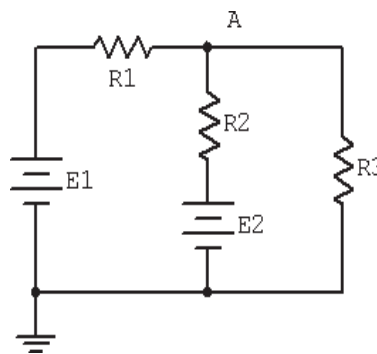

Figure 10.1
1. Consider the dual supply circuit of Figure 10.1 using  $E1 = 10$  volts,  $E2 = 15$  volts,  $R1 = 4.7$  k,  $R2 = 6.8$  k and  $R3 = 10$  k. To find the voltage from node A to ground, superposition may be used. Each source is considered by itself. First consider source  $E1$  by assuming that  $E2$  is replaced with its internal resistance (a short). Determine the voltage at node A using standard series-parallel techniques and record it in Table 10.1. Make sure to indicate the polarity. Repeat the process using  $E2$  while shorting  $E1$ . Finally, sum these two voltages and record in Table 10.1.
2. To verify the superposition theorem, the process may be implemented directly by measuring the contributions. Build the circuit of Figure 10.1 with the values specified in step 1, however, replace  $E2$  with a short. Do **not** simply place a shorting wire across source  $E2$ ! This will overload the power supply.
2. If one of the sources in Figure 10.1 had been inserted with the opposite polarity, would there be a significant change in the resulting voltage at node A? Could both the magnitude and polarity change?
3. If both of the sources in Figure 10.1 had been inserted with the opposite polarity, would there be a significant change in the resulting voltage at node A? Could both the magnitude and polarity change?